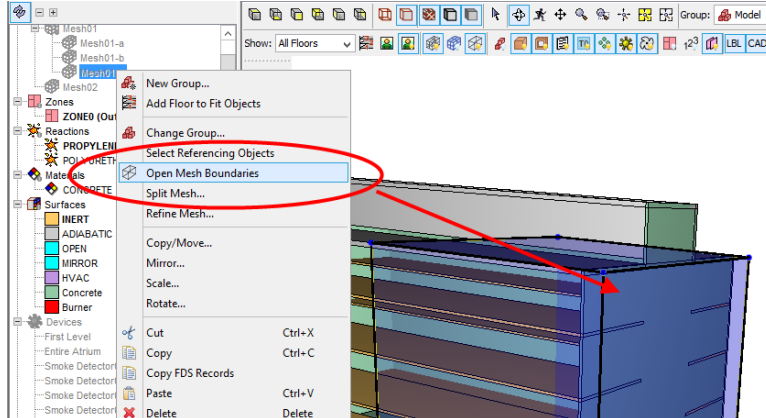

Figure 7: Open mesh boundaries
1. In the Navigation View, right-click Mesh01-c (the front mesh) and click **Open Mesh Boundaries**, Figure 7. This will add seven OPEN vents to the model.